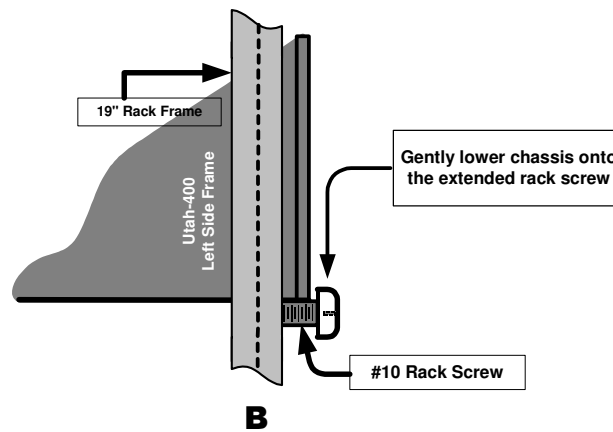

FIGURE 2-4. Lowering the Utah-400 Chassis on the Rack Screw
- b. Install two rack screws 3/4 of the way into the empty rack frame below the height determined in step a, above (leave a 1/8" gap). These screws will be used to support the weight of the chassis when it is moved into the rack frame. See Figure 2-4.
- d. Move the chassis to the 19" rack frame and carefully slide it into the rack frame, hooking the flange of the chassis above the rack screws installed in step b., above. (Figure 2-4).